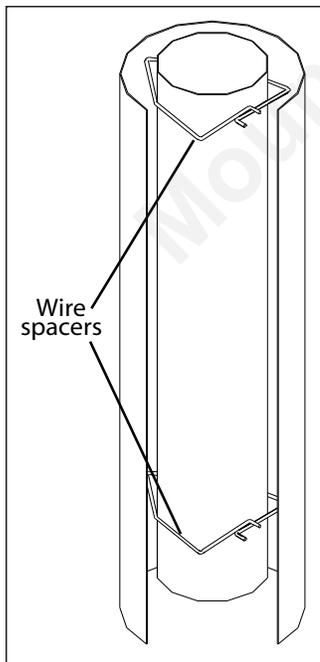

Figure 19: Wire Spacers.
8. Slide the Ø6 5/8" (16.25 cm) flex intake liner over the flex vent. Install four (4) wire spacers around the flex pipe. Ensure the wire spacers are positioned at either end of the pipes, and at each end of any elbows in the liners (refer to Figure 19 and 20).